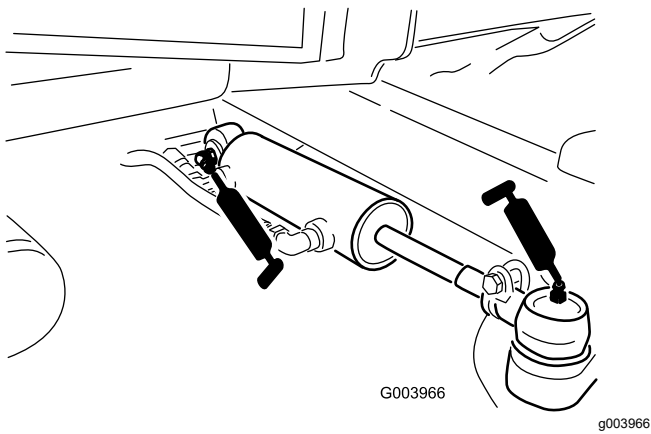

Figure 71
- Steering-cylinder ball joints (2) (Figure 71)